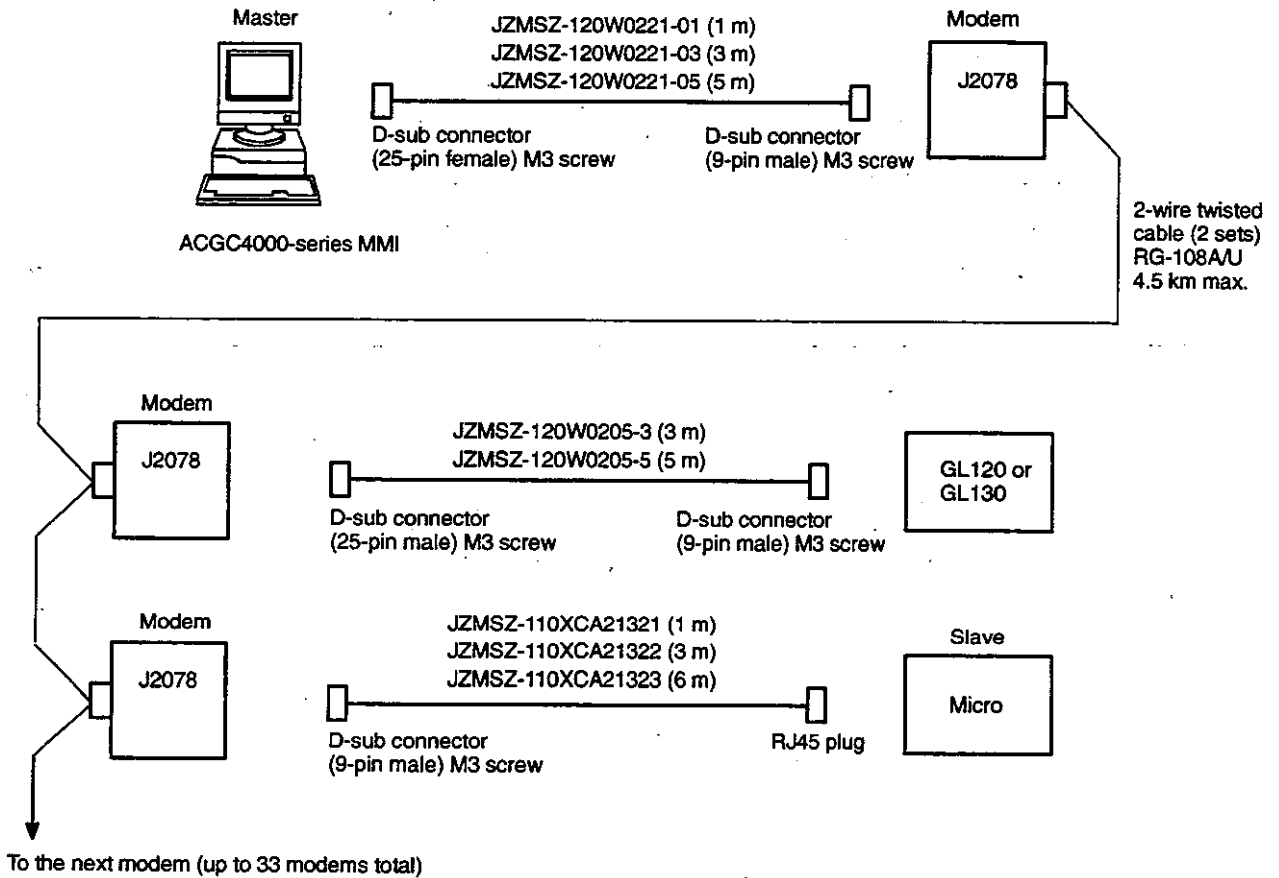

Figure 4.9 MMI Master 1:N Configuration Connected by Modems
1) Figure 4.9 shows an MMI master configuration where a master and multiple slaves are connected by modems.